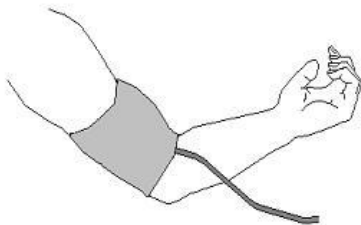

Figure 2.5 Cuff position
1. Applying the cuff; unfold the cuff and wrap it around the upper arm evenly to the appropriate tightness. The correct cuff position is shown in figure 2.5.